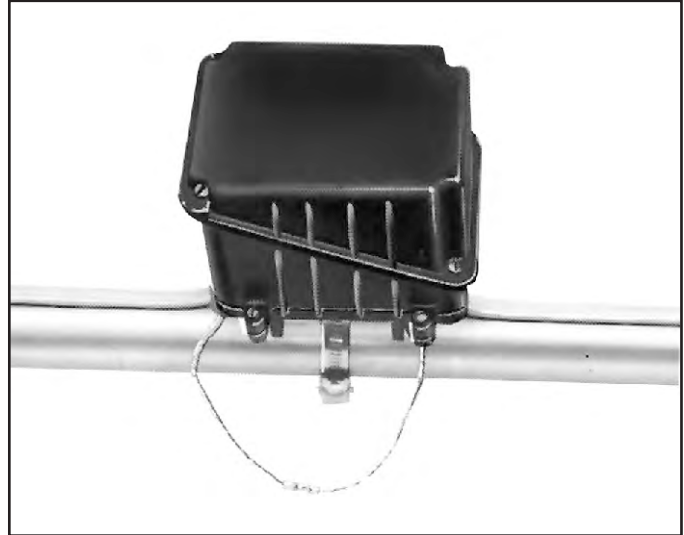

Figure 15
Unravel four (4) inches of braid from all cables and twist into a pigtail. If a tee splice is being performed, twist two of the pigtails together. Fold over the last 1/2 inch of pigtail on any single self-regulating cable. Insert one of the pigtails into the uninsulated barrel connector and crimp it on. Repeat with the other pigtail. See Figure 15.